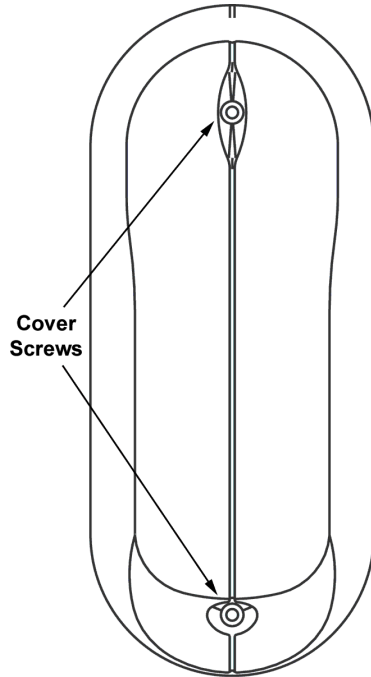
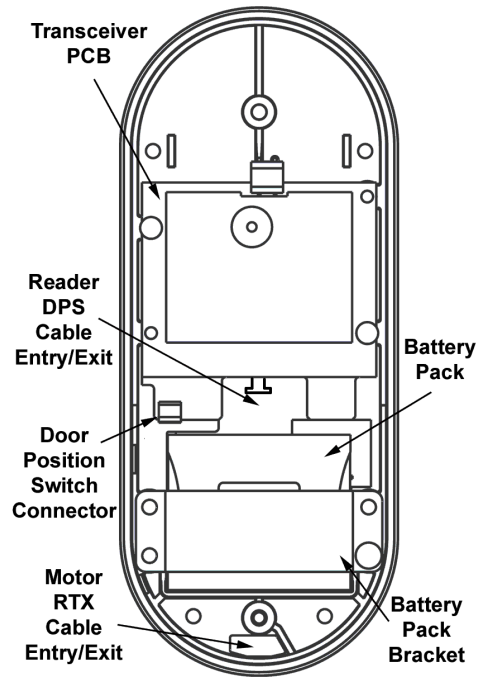

Figure 2-23 – Transceiver Cover
Figure 2-24 –Transceiver Base Plate Components
The Transceiver consists of two major components: the Transceiver Cover (Figure 2-23) and the Transceiver Base Plate (Figure 2-24). The Transceiver is mounted on the inside of the door.
- 2.9.1.1 Make certain that the Reader Cable is routed out the back of the Transceiver Base Plate in the opening just above the Battery Pack location (Reader/DPS Cable Entry/Exit, Figure 2-24).
- 2.9.1.2 Make certain that the Motor & Request to Exit Cable and Gray Ground Wire (ring terminal toward the Transceiver) are routed out the back of the Transceiver Base Plate in the opening at the bottom of the Transceiver Base Plate (Motor/RTX Cable Entry/Exit, Figure 2-24).
- 2.9.1.6 If the optional Door Position Switch is being installed, the wires coming from this switch should already be coming out the Reader Cable Hole and need to be routed through the Transceiver Base Plate in the opening just above the Battery Pack (Reader/DPS Cable Entry/Exit, Figure 2-24).